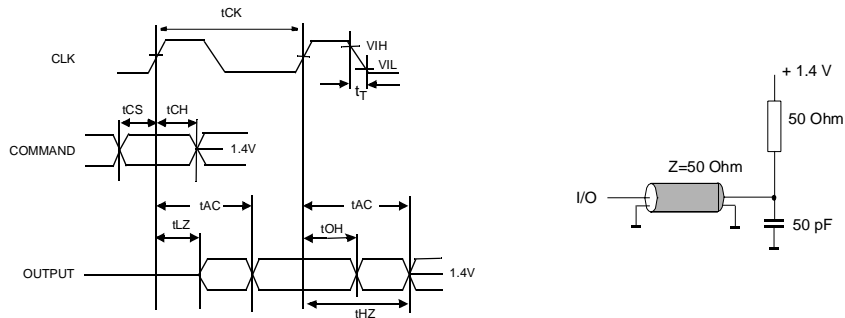

Figure 1.
2. AC timing tests have $V_{IL} = 0.8V$ and $V_{IH} = 2.0V$ with the timing referenced to the 1.4 V crossover point. The transition time is measured between V_{IH} and V_{IL} . All AC measurements assume $t_T = 1 ns$ with the AC output load circuit shown in Figure 1.